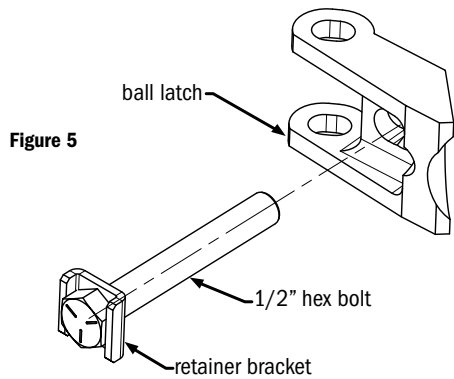
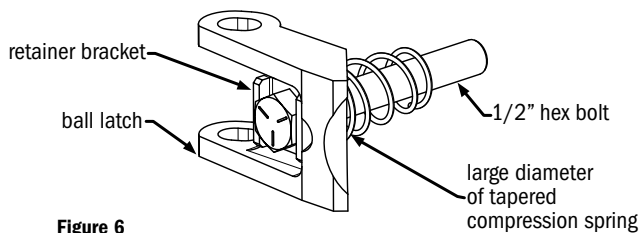
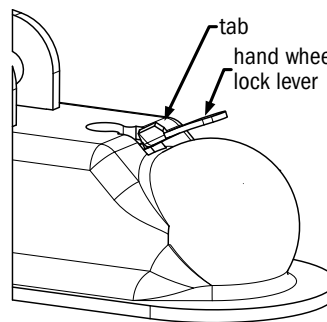

Figure 5
Figure 6
Figure 7
- Prepare the new ball latch jaw by first sliding the retainer bracket onto the 1/2" hex bolt, making sure the hex of the bolt is seated inside the retainer bracket as shown in as shown in Figure 5. Next slide the bolt and retainer into the ball latch, orientate as shown in Figure 6. Slide the tapered compression spring over the hex bolt with the larger diameter end of the spring first, also shown in Figure 6.
- From the ball side of the coupler, feed the handle end of the hand wheel lock lever through the notch in the coupler case. Be sure the tab is facing up as shown in Figure 7. While holding the hand wheel lock lever in place, slide the new ball latch assembly, as shown in Figures 6 & 8, up through the lever latch hole and coupler case seating the top coil of the spring around the raised ridge on the hand wheel lock lever as shown in Figure 8. While holding the ball latch assembly and spring compressed against the hand wheel lock lever, hand tighten the multi-fit hand wheel onto the hex bolt threads a couple of turns clockwise. (see Figure 9)